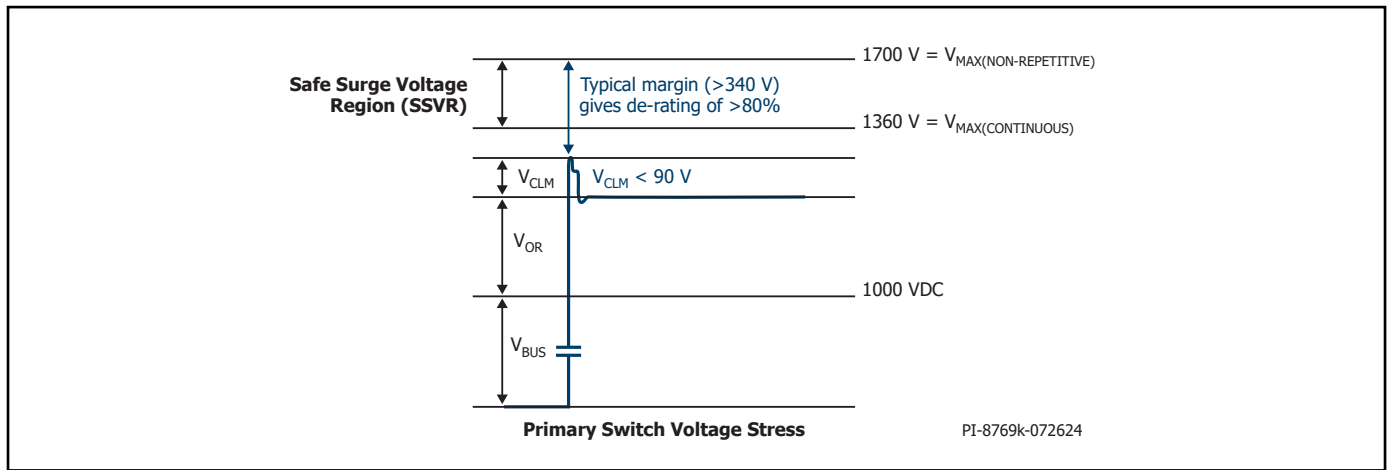

Figure 21. Peak Drain Voltage for 1000 VDC Input Voltage.
- Higher peak Drain current is allowed while Drain voltage is simultaneously less than 400 V. Please refer to Figure 21 and Figure 26.